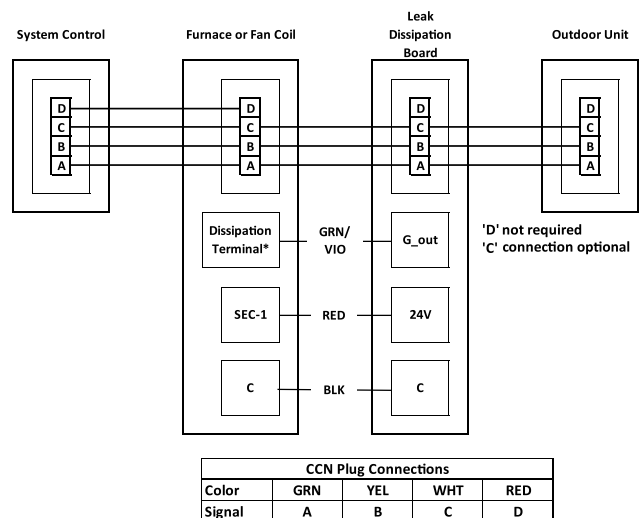

Fig. 4 – Infinity® Furnace or Fan Coil Wiring with Communicating Variable Speed HP
This appliance incorporates an earth connection for safety purposes only. Connect to Infinity® connections. Only two wires (AB) to Infinity® capable indoor unit (furnace or fan coil) is required. Typical 4 wire (ABCD) may be connected (see Fig. 4). C connection is not required but may be beneficial in certain installations that are experiencing communications issues.